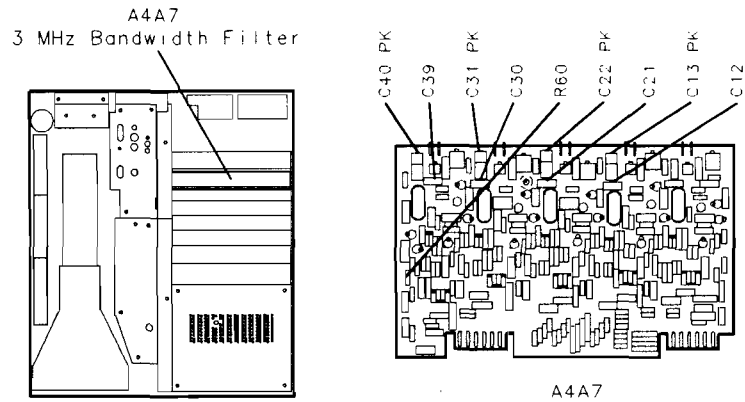

Figure 3-39. Location of 3 MHz Peak Adjustments
25. Adjust A4A7C13 PK for maximum peak-to-peak signal on channel 4 display. See Figure 3-39 for location of adjustment. If unable to achieve 1 "peak" in signal amplitude, increase or decrease value of A4A7C12. Refer to Table 3-3 for range of values.
28. Adjust A4A7C22 PK for maximum peak-to-peak signal on channel 4 display. See Figure 3-39 for location of adjustment. If unable to achieve a "peak" in signal amplitude, increase or decrease value of A4A7C21. Refer to Table 3-3 for range of values.
31. Adjust A4A7C31 PK for maximum peak-to-peak signal on the oscilloscope channel 4 display. See Figure 3-39 for location of adjustment. If unable to achieve a "peak" in signal amplitude, increase or decrease value of A4A7C30. Refer to Table 3-3 for range of values.
35. Adjust A4A7C40 PK for maximum signal amplitude on the spectrum analyzer CRT display. See Figure 3-39 for the location of adjustment. If unable to achieve a "peak" in signal amplitude, increase or decrease value of A4A7C39. Refer to Table 3-3 for range of values.